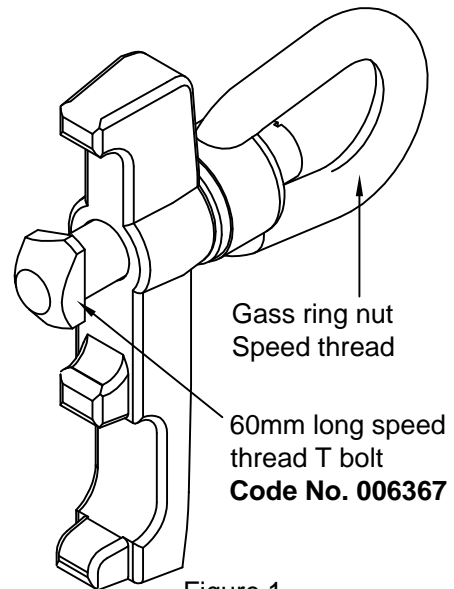

Figure 1
1. Ensure the head of the T Bolt is in the vertical position (See Fig. 1.)